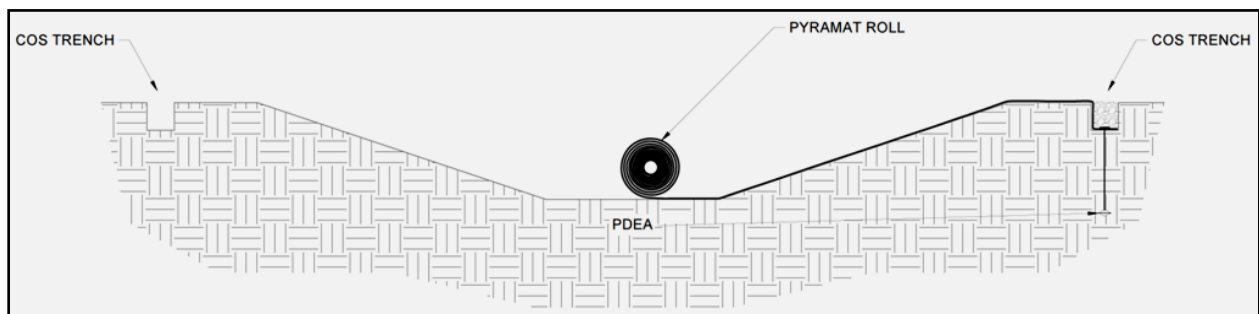

Figure 19: Perpendicular Placement of Pyramat across Channel
9. Unroll the Pyramat roll on the channel surface in the area to be armored. (Figure 19) Ensure that Pyramat has intimate contact with the ground and all irregular surfaces beneath Pyramat are removed.